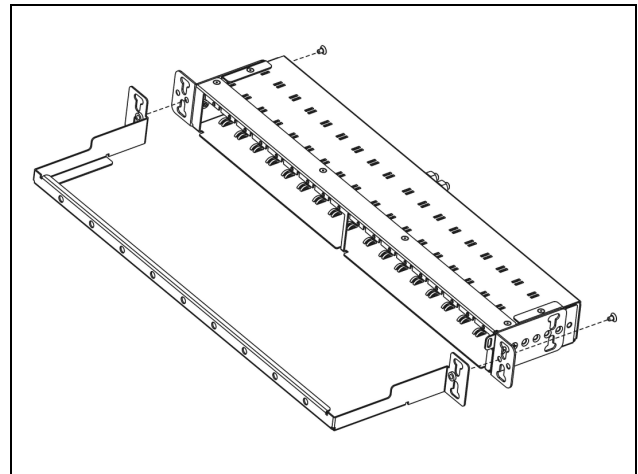

Figure 2. CMB-1 with SIPP-1800, 19" rack
- a) Align the threaded hole on each of the CMB-1 mounting ears with the hole on the SIPP chassis bracket. The SIPP mounting brackets must be mounted flush to the face of the chassis. Examples are shown in Figures 2 and 3.